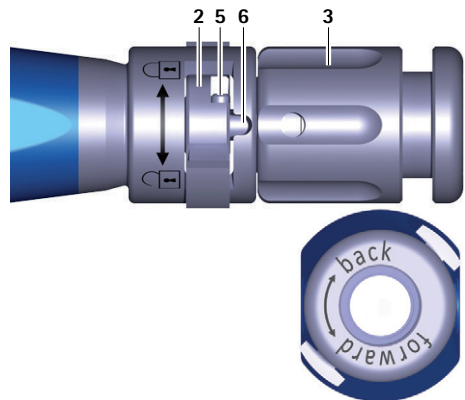

Fig. 1 Close-up view of the insertion instrument, switch open
- Turn the rotary nut **3** on the insertion instrument **A** counterclockwise ("forward" direction) to push the rod **6** forward, see Fig. 1.
- Turn the switch **2** to the left (↶ direction), see Fig. 1.
- Turn the switch **2** to the left (← direction), see Fig. 1.
- ▶ Check the position for coupling the insertion instrument **A**, see Fig. 1.
- ▶ Turn the switch **2** to the left (↻ direction), see Fig. 1.
- ▶ Turn the rotary nut **3** counterclockwise ("forward" direction) to push the rod **6** forward, see Fig. 1.